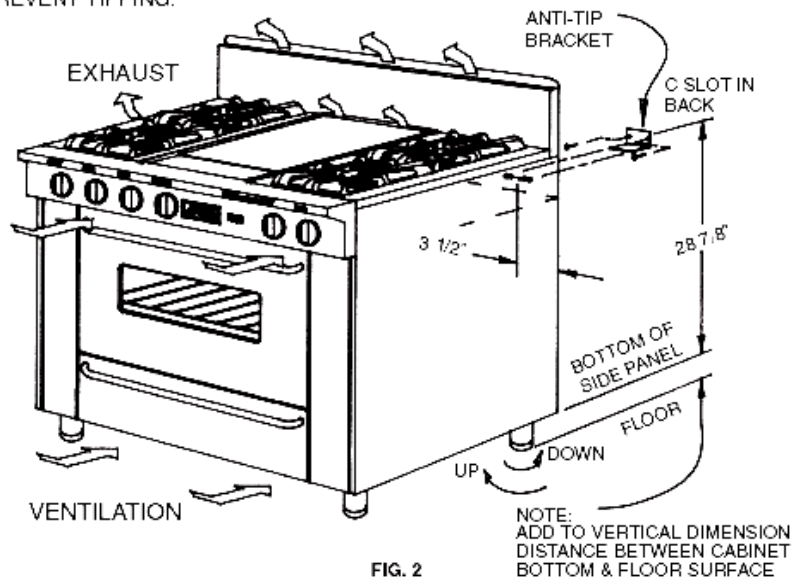

FIG. 2
- 3) REMOVE RANGE AND INSTALL ANTI-TIP BRACKET TO WALL, SEE NOTE, FIG. 2.